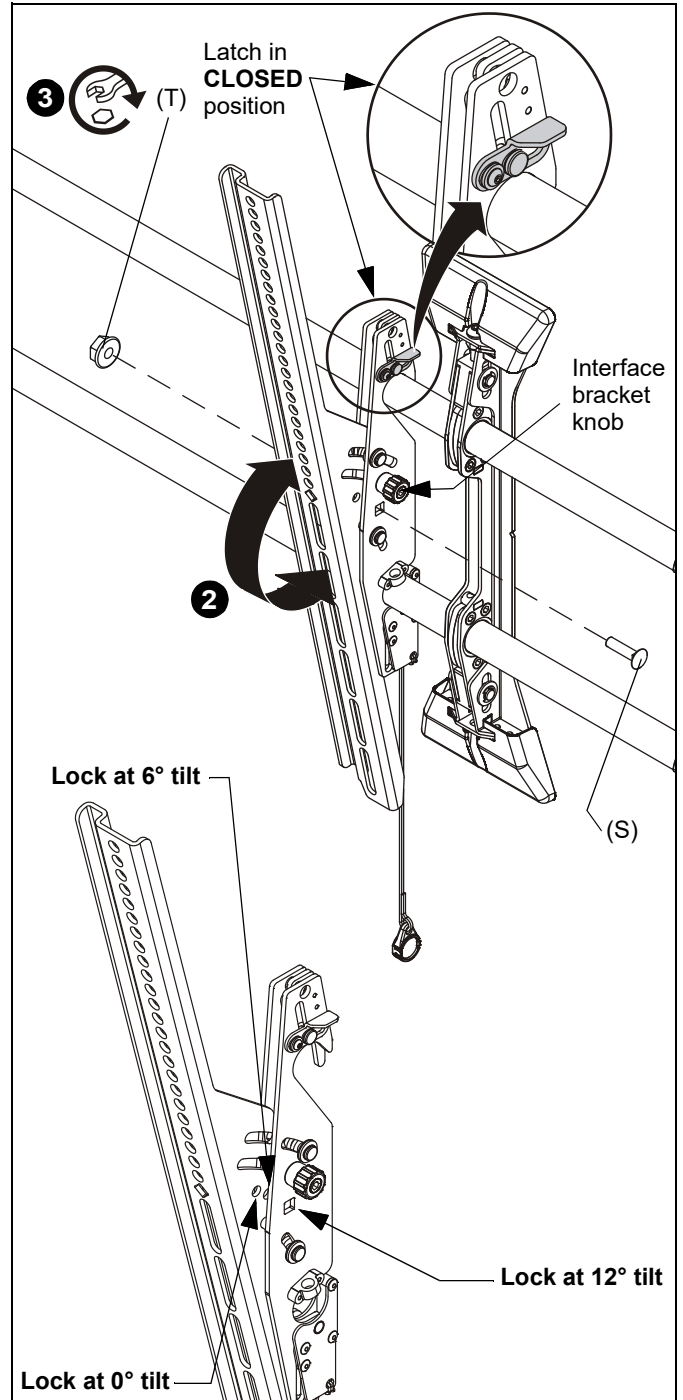

Figure 22
3. (XTM1U only) Move latch on top of interface brackets to CLOSED position. (See Figure 22)
2. Adjust tilt as required. (See Figure 22)
3. The tilt may be locked at 0°, 6° or 12° using one 1/4-20 x 1" round head carriage bolt (S) and one 1/4-20 hex nut (T) per interface bracket. (See Figure 22)